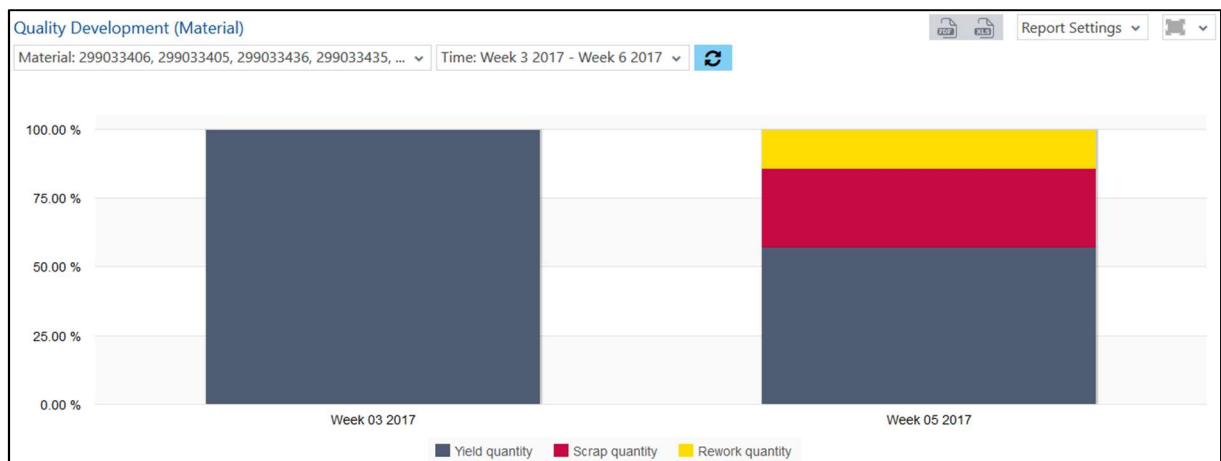

Fig. 111: Quality Development (Material) as a column chart
- Quality Development (Material) as a column chart (Fig. 111):